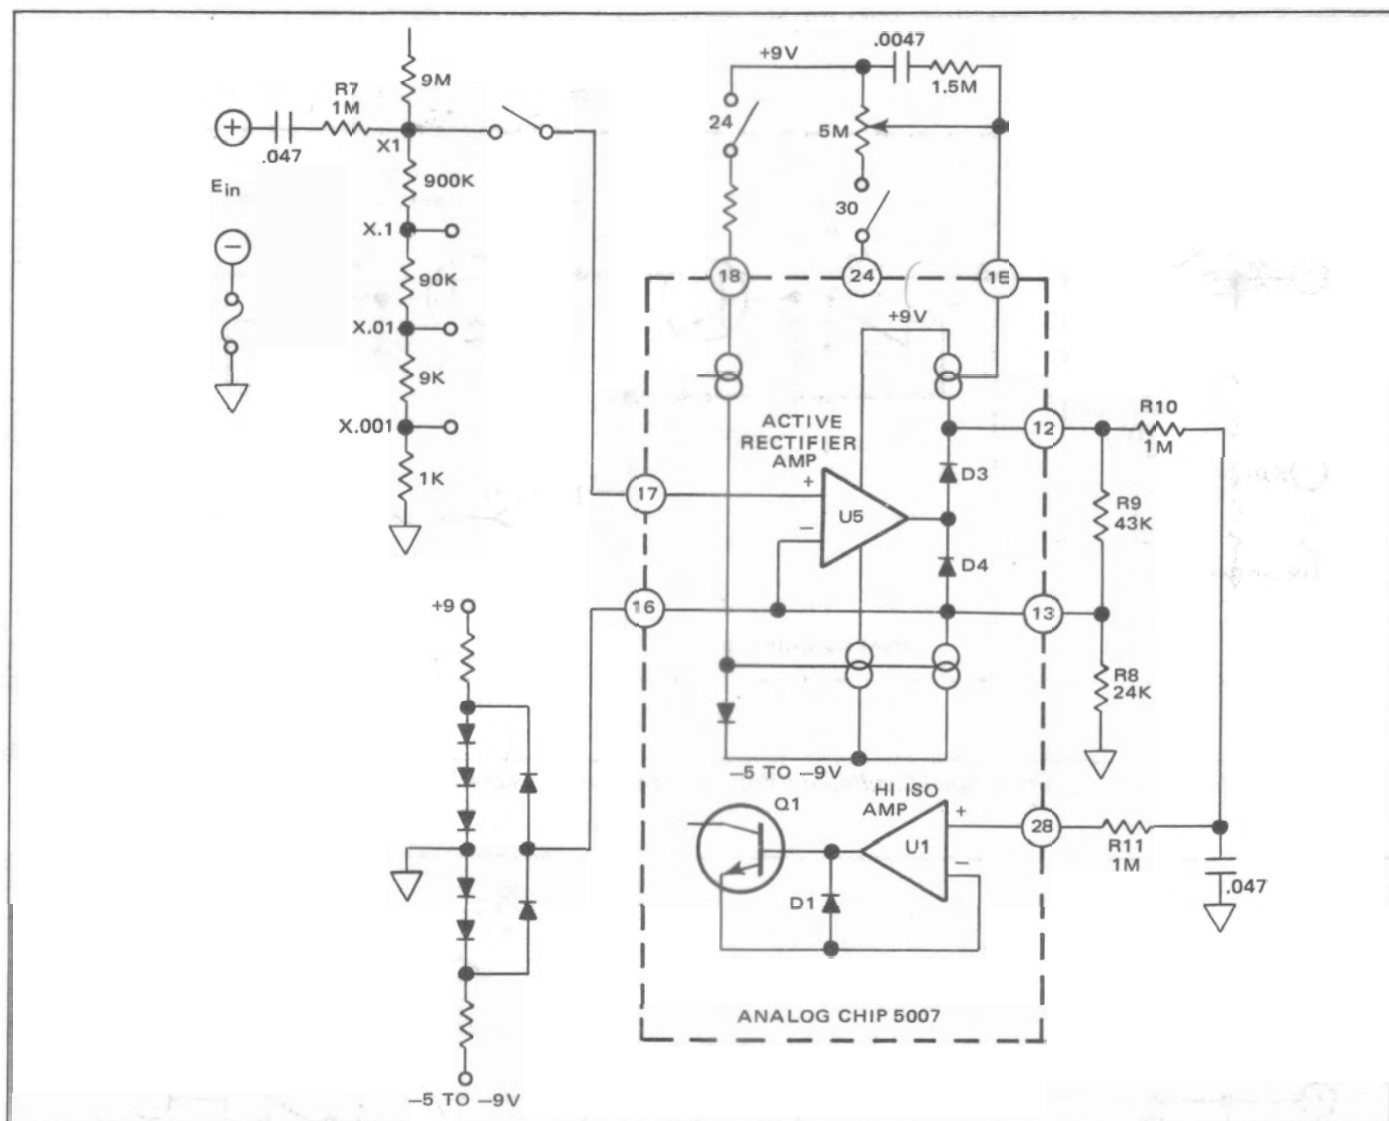

Figure 2.4 - AC Converter Functional Block Diagram
2.3.1 When the AC FUNCTION is selected, a switch closure enables a bias circuit on the analog chip to provide operating power to the active rectifier amplifier circuit. As shown in Figure 2.4 the input signal is applied to the input coupling capacitor to the switchable decade divider to provide an input to the active rectifier amplifier input of approximately 2 volts (p-p) for a full scale input signal. The non-signal input of the active rectifier (U4) is biased at a near zero potential by an external clamp diode circuit to protect the amplifier against damage in an over-voltaged input condition. The input divider produces X1, X.1, X.01, and X.001 attenuation factors for input signals from 2 VAC to 1000 VAC, respectively. The output is a plus rectified waveform at the cathode of D3 that is filtered by R10 and C3 to produce the average DC value of the waveform at the output of the rectifier amplifier. The DC value is then applied to the (isolator) voltage-to-current converter input with the gain resistor reduced in value to approximately 20K Ω to increase the current draw (by 2 1/2 times) from the integrator for full scale input signals.